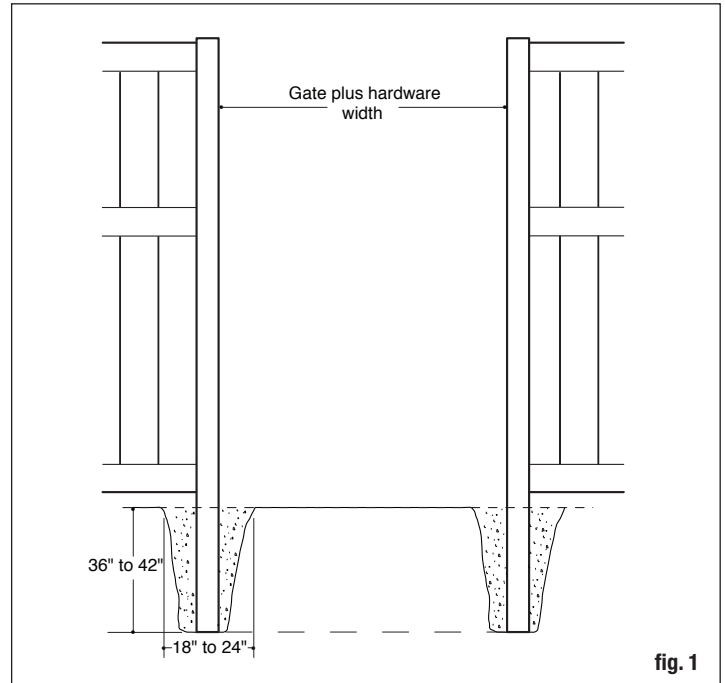

fig. 1
- Dig the holes for the gate posts 18" to 24" in diameter and 36" to 42" deep (depending on local ordinance or expected frost depth in winter). See fig. 1.